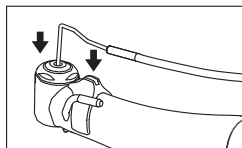

Fig.8
- 3) Insert the end of the Internal Spray Nozzle into the hole at the top of the handpiece head, then attach the Internal Spray Nozzle into the slot on the Nozzle Holder. (Fig.8)